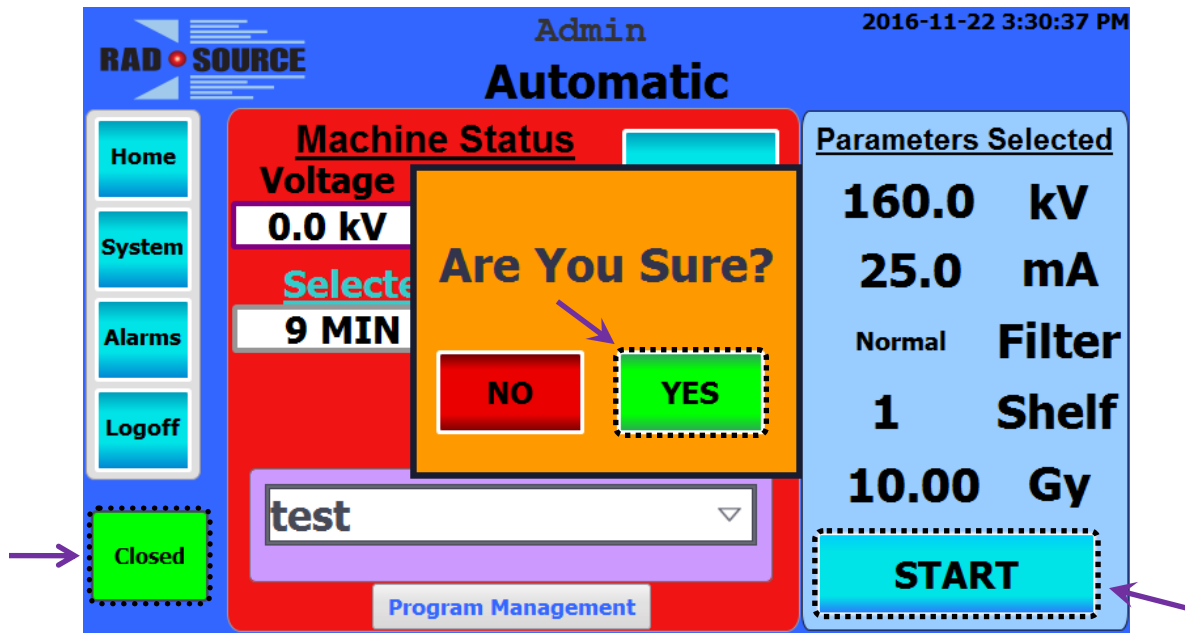

Figure 44: Start & Confirm Automatic Cycle
4. Press *Start* and confirm start by pressing the *Yes* button at the prompt. (See Fig. 44.)